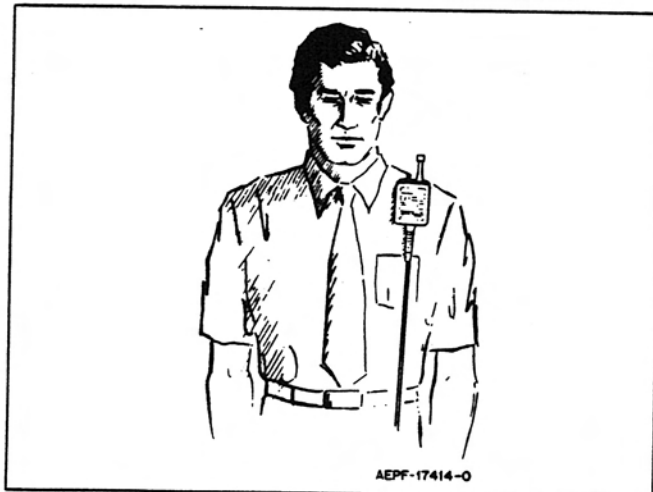

Figure 1.
A high/low volume switch, S2, allows the user to monitor the audio at a low volume level, then to immediately switch to a high volume level without resetting the volume control on the radio. This feature especially useful when the radio is worn on the belt and the speaker microphone is on the lapel shoulder, as shown in Figure 1.
- Insert the tab on the microphone's accessory connector (part of item 1) into the slot in the radio's universal connector.
- Slide the accessory bracket (part of item 1) down over the radio's antenna bushing nut.
- Insert the button-head screw (item 32) into the threaded hole in the antenna bushing nut, and tighten it firmly (recommended torque is 10 in. lb.).
- The microphone will perform best if it is worn with the antenna above the shoulder as shown in Figure 1.